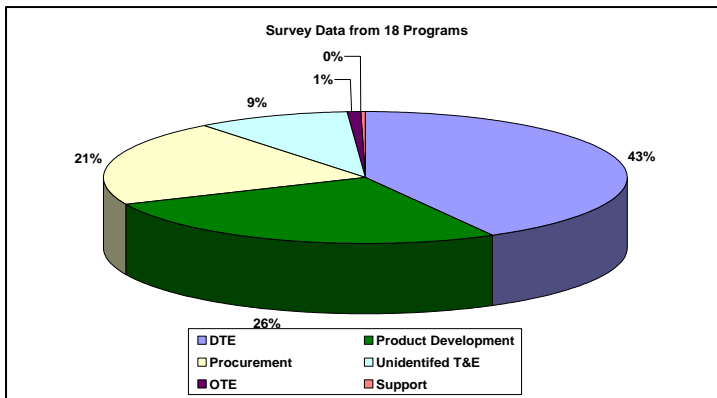

Figure 3: Research, Development, Test, and Evaluation (RDT&E) cost breakdown survey results¹⁵
- drive to maintain cost and schedule may result in reduction of capabilities and/or reduction in testing to determine those capabilities (although testing, shown below in figure 3 is a small fraction of the budget).
Although mostly beyond the scope of this analysis on T&E, the effect on business culture of CAIV and cost constraints managed under PPBE cannot be ignored. From a Navy perspective, this is highlighted for testers in the CNO’s guidance for 2004 that set a goal to “streamline our [T&E] processes through a collaborative effort among Navy, [OSD], and contractor entities, using [M&S] where appropriate, with the goal of reducing the cost of T&E by 20 percent.”¹⁷ This goal was laid out as part of the Sea-Trial aspect of the new concept of Sea-Power 21 and other naval transformation strategies. Figure 3 above cited from the COMOPTEVFOR study shows the cost breakdown of T&E, particularly OT&E, as a smaller fraction within RDT&E costs for a sampling a Navy programs. Figure 4 below from various OSD systems engineering briefings shows a similar study on RDT&E cost breakdown.